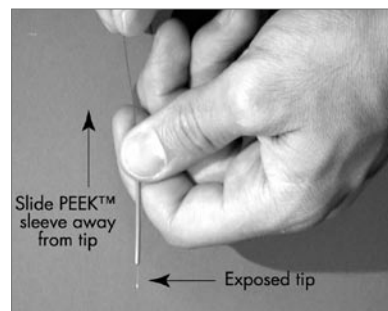

Figure 9 Pushing the FEP sleeve off the tip end of a PicoFrit® column
- 4) Carefully push the PEEK sleeve against the FEP sleeve until the FEP sleeve falls off, as shown in Figure 9. This may take a LOT of force. You will have to move the PEEK sleeve about 3-5 mm. Grasp the column in one hand while pushing the sleeve off with the other hand.